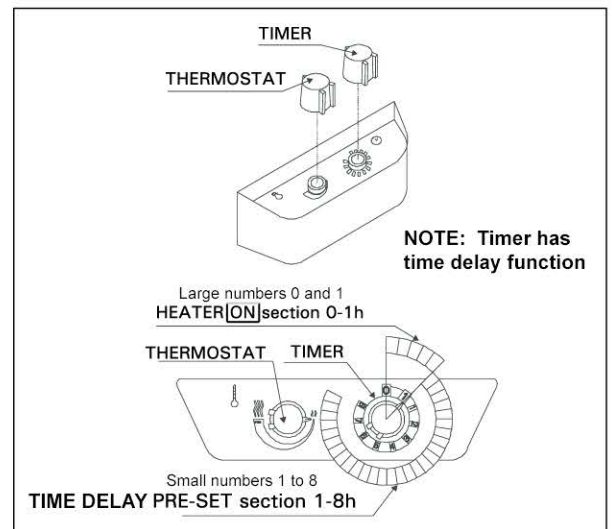

Figure 2. Control panel
The heater is switched on by using the timer switch. The indicator lights will come on. The timer has two scales: the first one (with larger figures) is the "instantly on" section; that is, the heater is on for a selected period of time (0–1 hours). The other section is the so called "pre-set section" (1–8 hours), which is used to start the heater after a certain time. The heater starts when the timer has turned the switch back to the "instantly on" section, that is, at number one(1). After this, the heater will be on for about 1 hour, unless the switch is turned to zero before that. At zero (0), the supply to the elements is cut off and the heater is switched off. See fig 2.